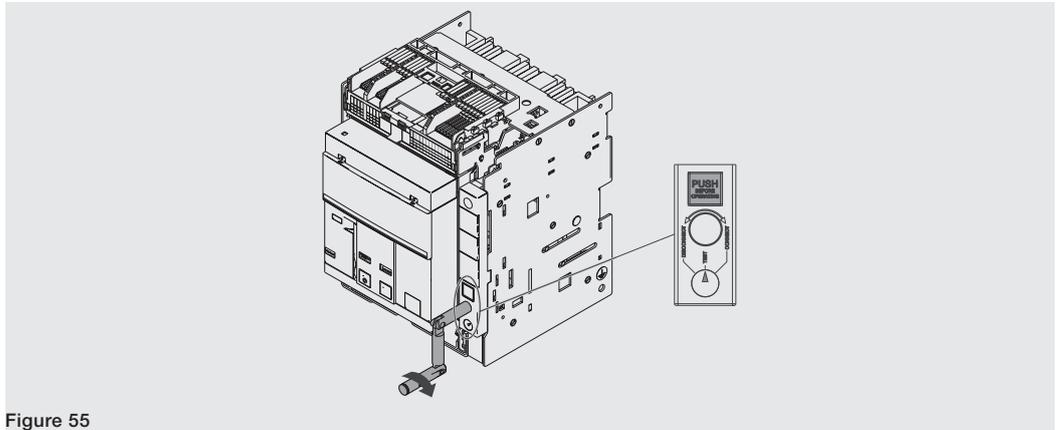

Figure 55
6. Turn the crank clockwise until the pushbutton comes out and the indicator shows that the circuit-breaker is in **TEST** position. See Figure 55.